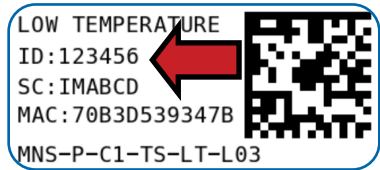

Figure 1
**2. Find the device ID. See Figure 1.**